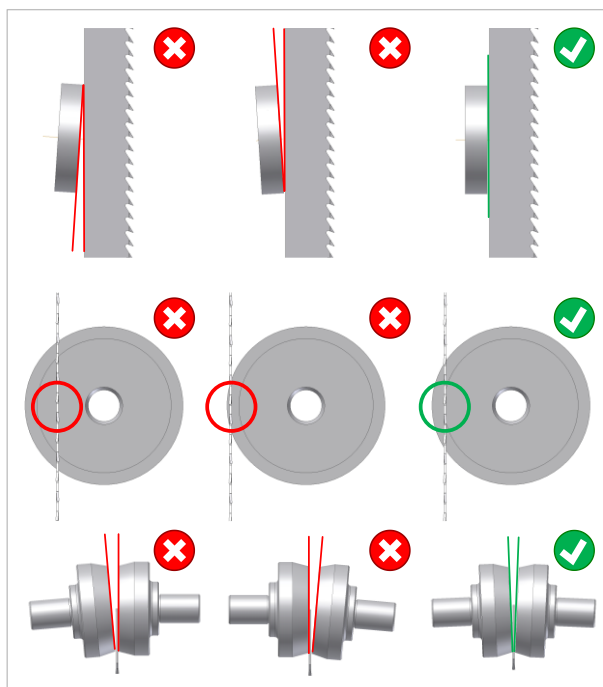

Figure 31: Basic adjustment of the back and side rollers
- Adjust side rollers so that they only lightly touch the saw blade (see ⇒ Figure 31). Please take care that the saw blade is not pushed to the side!
- The ⇒ Figure 31 shows on the far right the optimal setting of the back and side rollers. On the left and in the middle, it is shown which settings are wrong and must be avoided.
- The back roller must be parallel to the back of the saw blade (vertical), see ⇒ Figure 31 top right.
- The saw blade must run exactly in front of the inner edge of the back rollers (⇒ Figure 31, centre right).
- The opening angles between the side rollers and the saw blade must be the same on both sides (⇒ Figure 31 bottom right).
Incorrect basic adjustment of the guide	→ Check basic adjustment (⇒ Figure 31) and readjust if necessary (see section ⇒ 10.7.2).
Saw blade runs too far inside on the back roller	→ Check basic adjustment (⇒ Figure 31) and readjust if necessary (see section ⇒ 10.7.2).